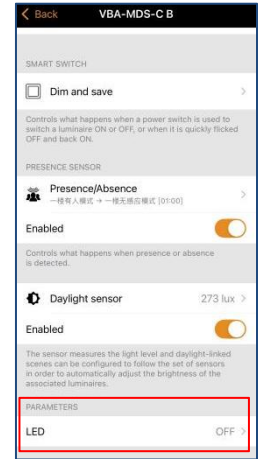

Figure 4
- If required, set the LED parameters to "ON/on" to activate Bluetooth and sensor status indicators (**as in Figure 4**)